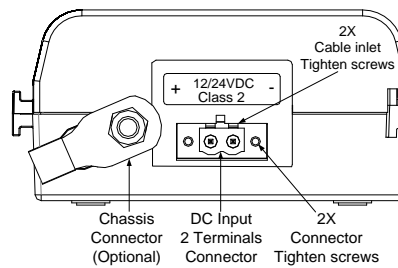

Figure 2: EEPoE Midspan Power Connector
- The power connector supplied with the EEPoE Midspan (included in the package) has 2 terminals; '+' (POS) and '-' (NEG) (See Figure 2).
- After inserting a cable inlet to the connector terminals, tightly fasten all 4 connector screws (See Figure 2).
- Tighten the 2 connector screws (See Figure 2).
- Connect the EEPoE Midspan Input connector to Stranded Tinned Copper cables, 16 AWG for each terminal (rated for 3.5 Amperes), and tighten the 2 Cable inlet screws (See Figure 2).